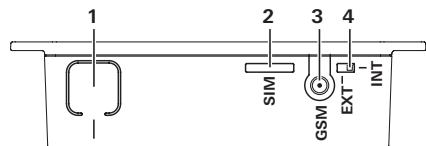

Figure 2 – Top view
Press the button (Figure 2 – 1) for at least 20 seconds. A short flashing of the blue LED indicates – appliances saved and reset done.
- Press the button (Figure 2 – 1) for approximately 1 second.